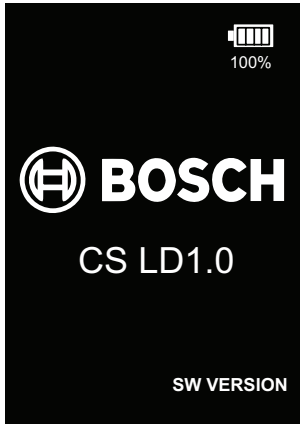

Fig. 22: Power on display
- ! Disconnect the charging cable immediately if the following message, see Fig. 22, is displayed on the screen. Failure to disconnect and cease charging when this warning appears could result in fire, explosion and serious damage or injury!
- ! If this message appears, the unit should remain disconnected until both the unit and the charger return to ambient temperature. Allow a minimum of three (3) hours before attempting to reconnect charger.